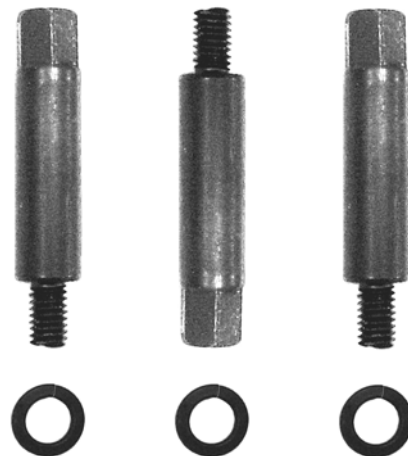
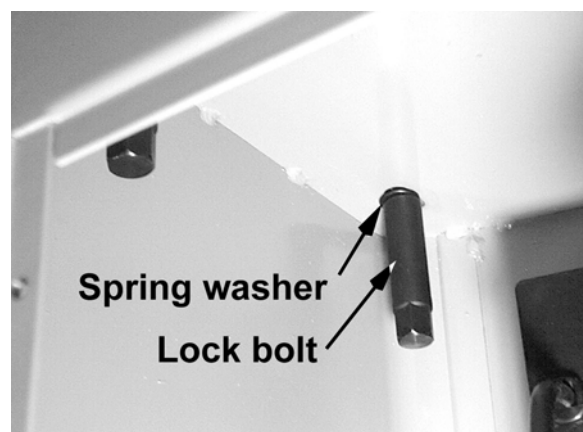

Figure 1
Figure 2
2. Use three lock bolts and spring washers (Figure 1) to firmly fasten the jointer to the stand. The bolts are threaded up through the holes in the stand into the base of the jointer (Figure 2).